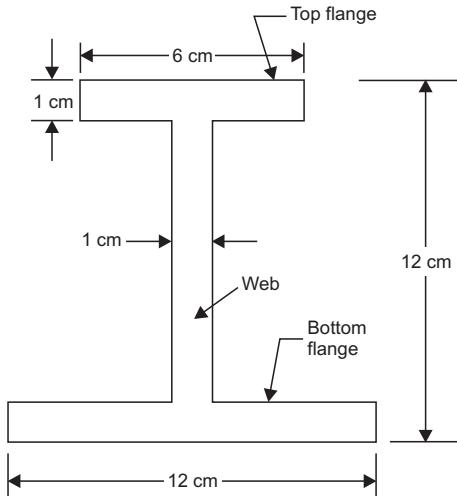

Fig. 8.33
2. Find the moment of inertia about the horizontal axis through the c.g. of the section shown in Fig. 8.33.